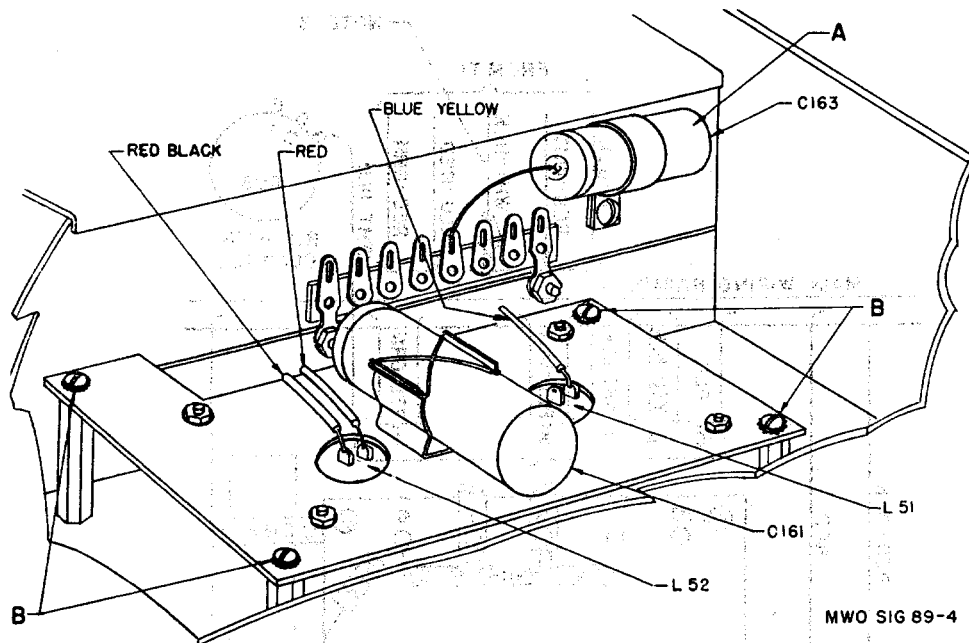

Figure 4. Original location of capacitor C163.
(1) Examine the radio receiver being modified for the presence of the .25- μ f capacitor C163 in the position shown at A, figure 4; if one exists, it should be removed as explained below.
(2) Remove the 15 screws and lock washers that hold the bottom cover to the tuning unit housing, and remove the cover.
(3) Remove the screw, lock washer, and nut that hold the capacitor to the tuning housing, and remove the capacitor.
(4) Replace the bottom cover to the tuning unit housing; use the original screws and lock washers.
(5) Unsolder and remove the five leads connected to the power filter-choke subassembly; note their respective positions and color.
(6) Remove the four screws and lock washers (B, fig. 4) that hold the power filter-choke subassembly to the chassis and lift the subassembly from the chassis.